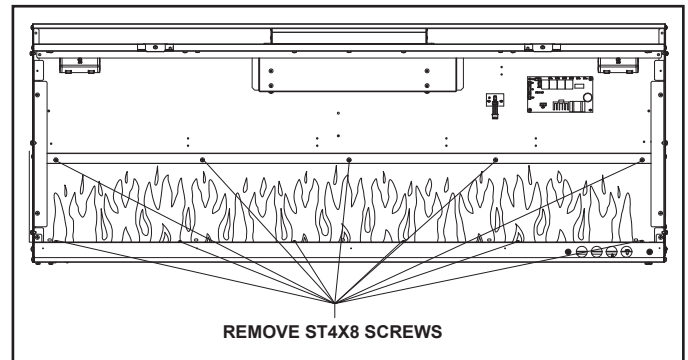

Figure 20 Flame Screen Removal
1. Remove ST4X8 screws holding the Flame Screen in place. See Figure 20.